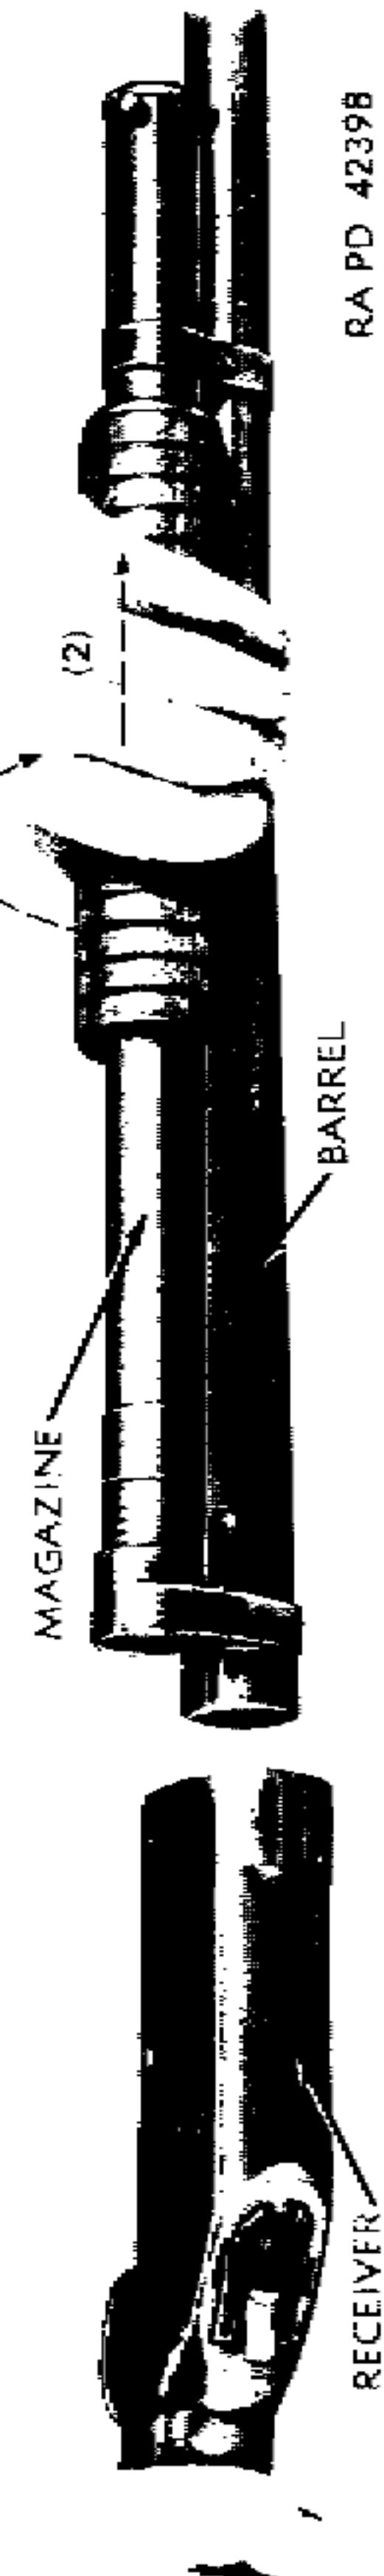

Figure 17—Barrel and Magazine Disengaged from Receiver—Winchester Shotgun M97 (Take-down)
-(c) Push the action slide handle forward until the rear end of the bar is free of the receiver. Then, grasp barrel and magazine in left hand and receiver in right hand, and turn the barrel $\frac{1}{4}$ turn clockwise to disengage the interrupted threads on the rear of the barrel from those in the receiver, and withdraw the group forward from the receiver (fig. 17).
(3) CARRIER GROUP. With barrel, magazine, and action slide groups (take-down gun) or magazine and action slide group (solid-frame gun) removed, the carrier may be removed as follows: